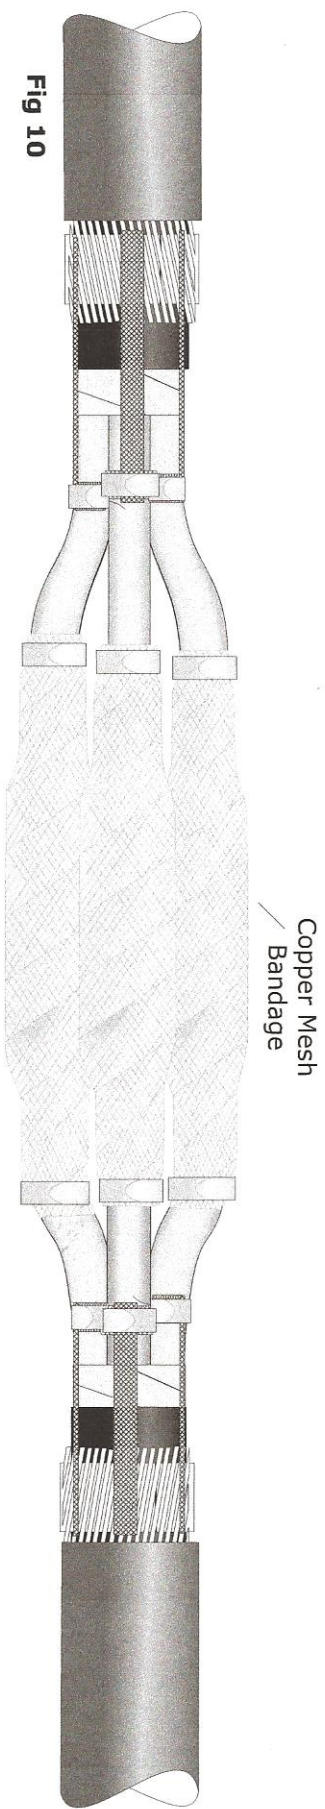

Fig 10
13. Take a roll of the copper mesh bandage and with half width overlap apply around each core. Extend past the end/s of the connector insulation tube set and secure to the lead sheath at each side with roll springs as shown above in Fig 10.